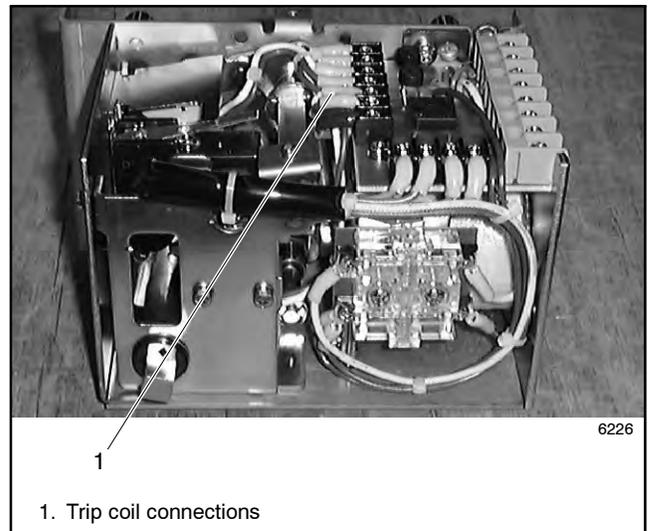

Figure 7-22 Trip Coil Connections
- Note the connections and disconnect the trip coil leads from the printed circuit board. See Figure 7-22.